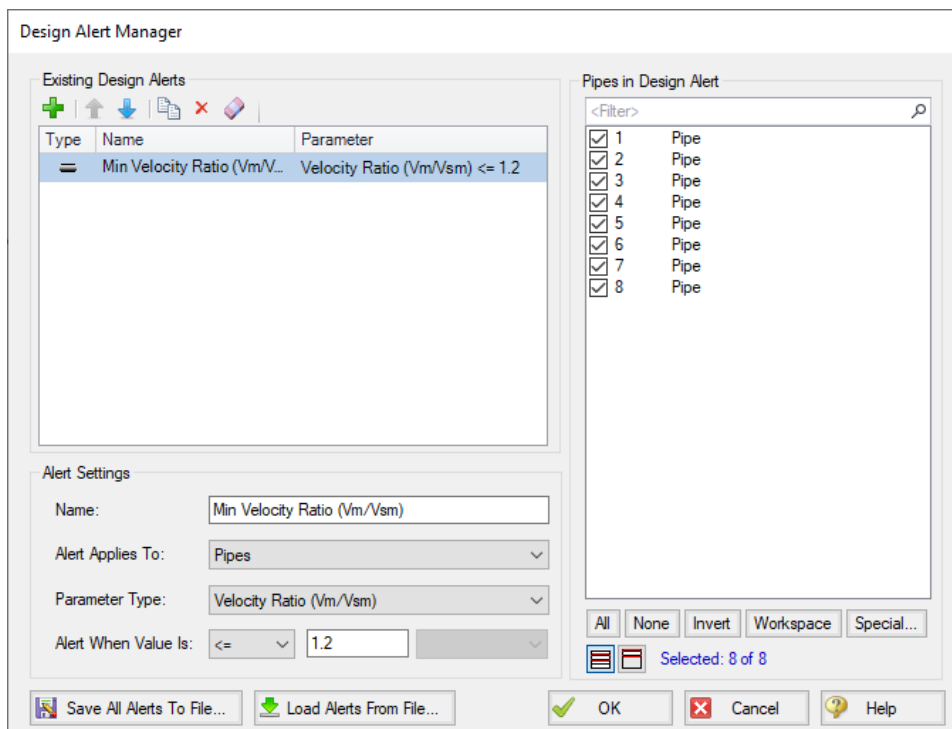

Figure 5: Creating a minimum velocity ratio Design Alert
7. The Design Alert Manager window should now appear as shown in Figure 5